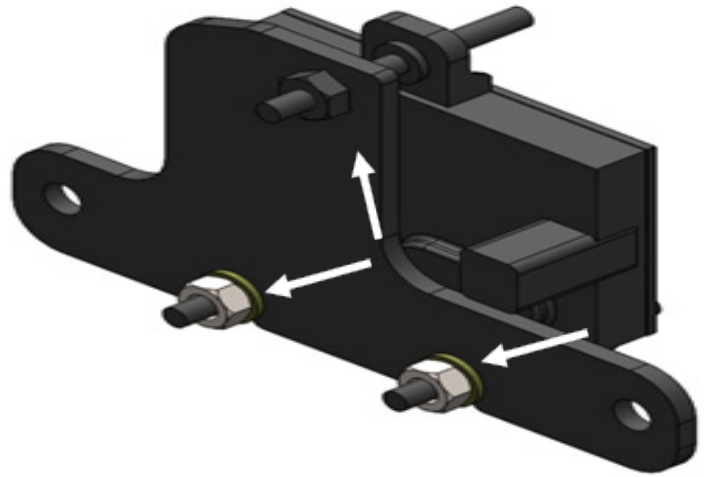

Figure 4
4. Install the small sensor by placing the sensor into the bolt on bracket (22339) and screwing in the top bolt into the weld-nut. Use the provided M8 hardware to fasten the lower two bolts (50244-HW). NOTE: Once the lower two bolts are secure make sure the sensor is parallel to the front face by adjusting the upper bolt in the weld-nut. (Figure 4)